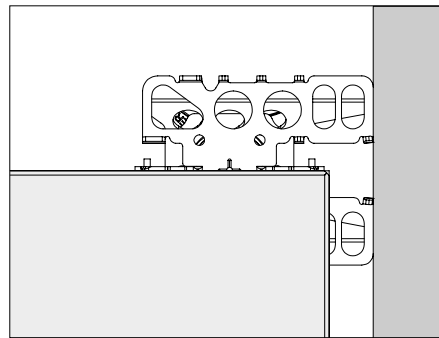

Fig. A5.17c
The teeth in the plastic racks (7.2) on the cantilever hold the panels (3) in 5 different positions. Select support position according to the compensation width. Position the cantilever of the Combihead SCK as close as possible to the wall in order to provide maximum support for the infill area. (Fig. A5.17c - A5.17d)